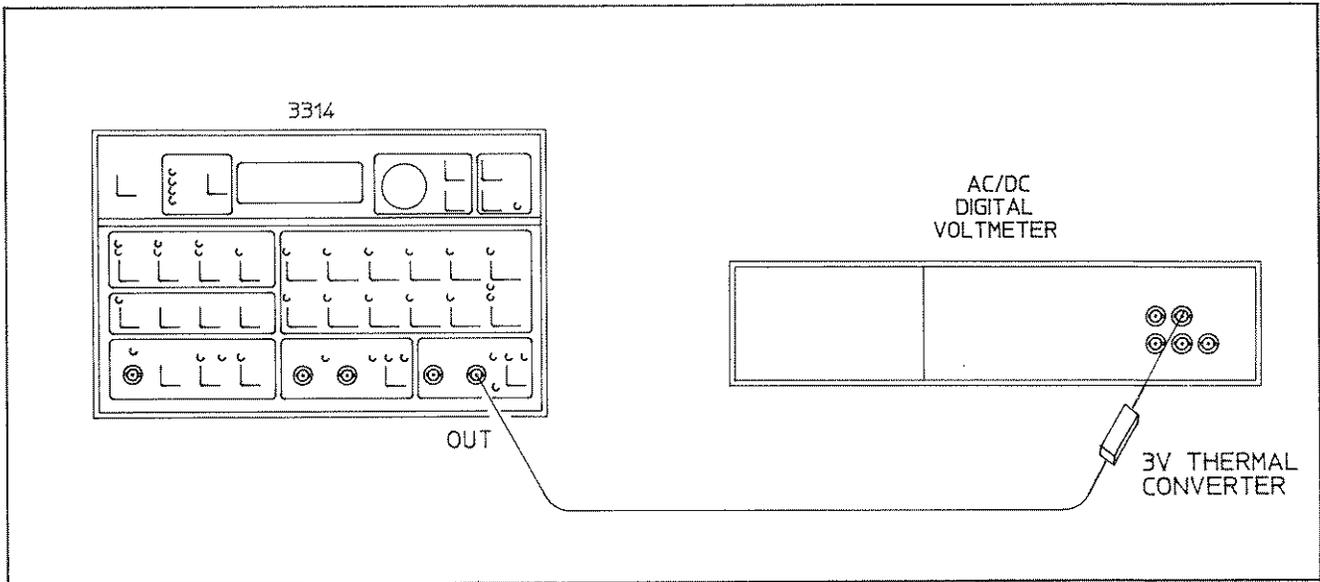

Figure 4-14. Sine Wave Power Flatness
D. Connect the 3314A to the Thermal Converter and the Digital Voltmeter as shown in Figure 4-14.